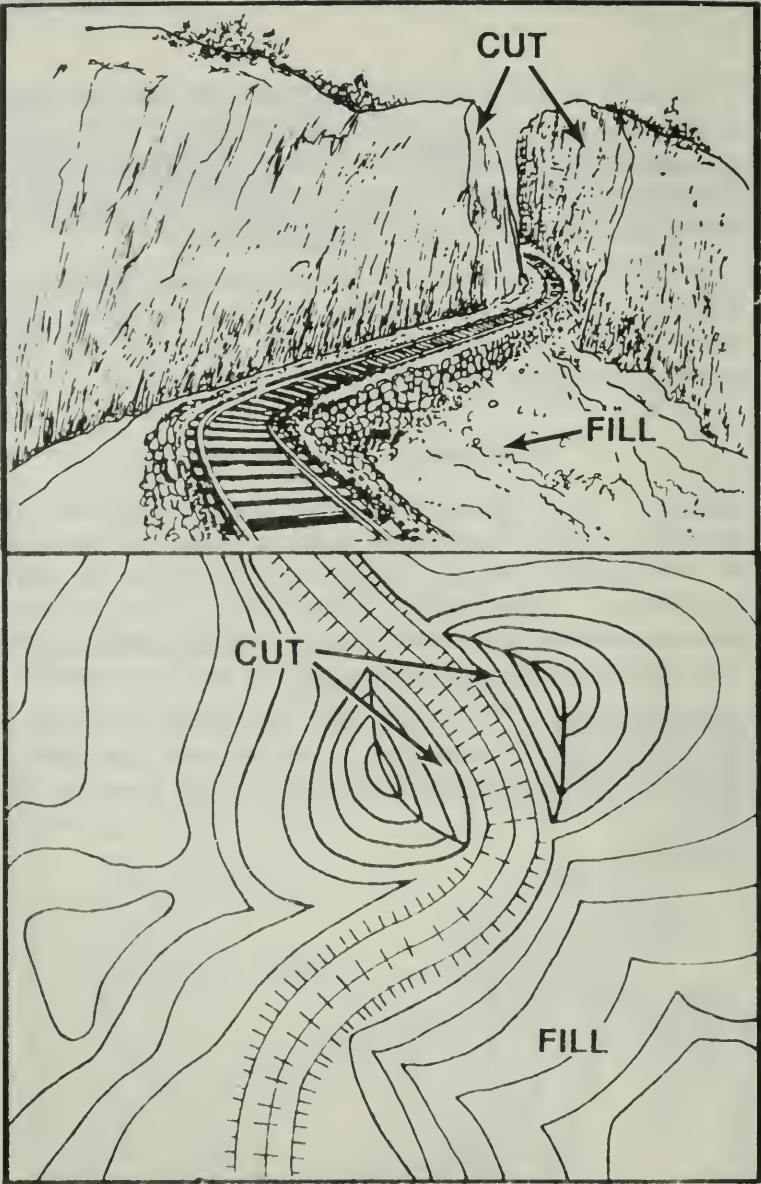

Figure 23. A Cut And Fill.
b. **Cut.** A cut is a man-made feature, such as when a hill is cut away to lay a railroad track bed. It is shown on a map when it is at least 10 feet high. The contour line extends along the length of the cut and the tick marks point toward the roadbed (Figure 23).
c. **Fill.** A fill is where a low area has been filled in to level off an area, such as for a railroad track bed. The contour lines extend along the fill area and the tick marks point toward lower ground (Figure 23).